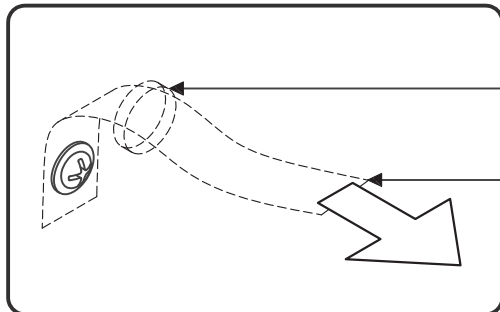

Figure 6
Move unit back into place and insert Tipover Restraint into unit through hole in Back Panel (G). (See Figure 6)